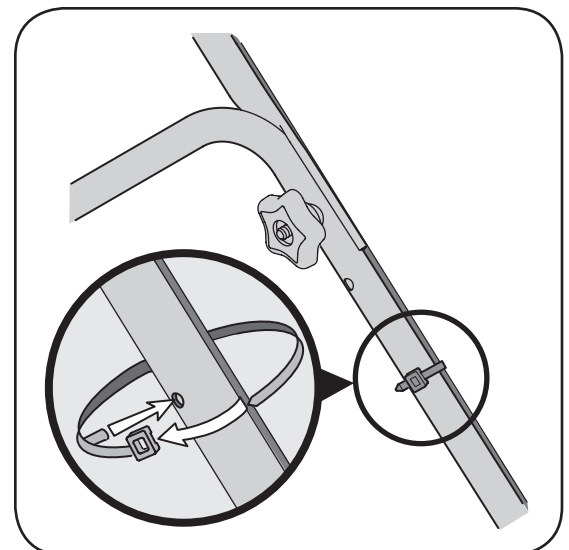

Figure 3-4: Secure cable to handle using cable ties.
4. Insert post on cable ties into holes provided on the lower handle. Pull cable tie tight and trim excess, Figure 3-4.